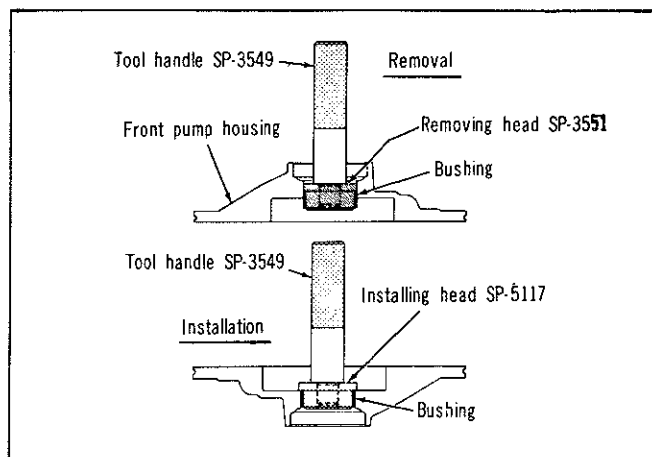

Fig. 44—Replacing pump bushing
(1) Place pump housing (seal face down) on a smooth firm surface.
(2) Place removing head, Tool SP-3551 in bushing and install handle, Tool SP-3549 in the removing head (Fig. 44).
(3) Drive bushing straight down and out of pump housing bore. Be careful not to cock tool in the bore.
(4) Position new bushing on installing head. Tool SP-5117.
(5) With pump housing on a smooth clean surface, start bushing and installing head in the bushing bore. Install handle, Tool SP-3549 in the installing head (Fig. 44).